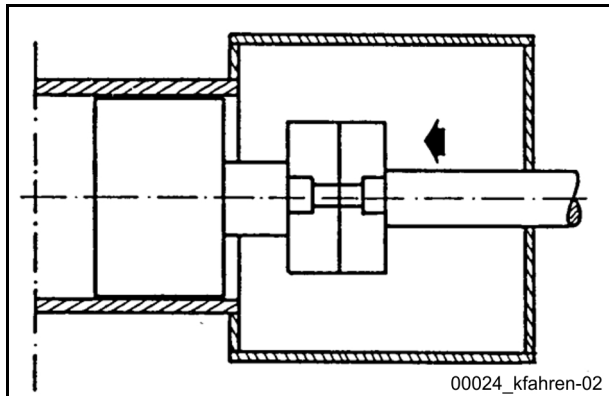

Fig. 344 Retract pumping piston
- Move the pumping piston into the cylinder far enough that the screw connection can still be loosened (**Fig. 344**).